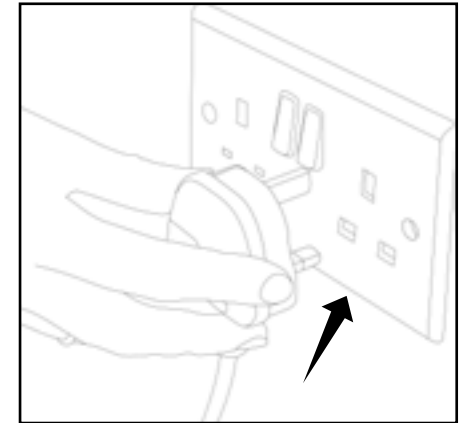

Fig. 2
1. Plug the machine in (Fig 2)